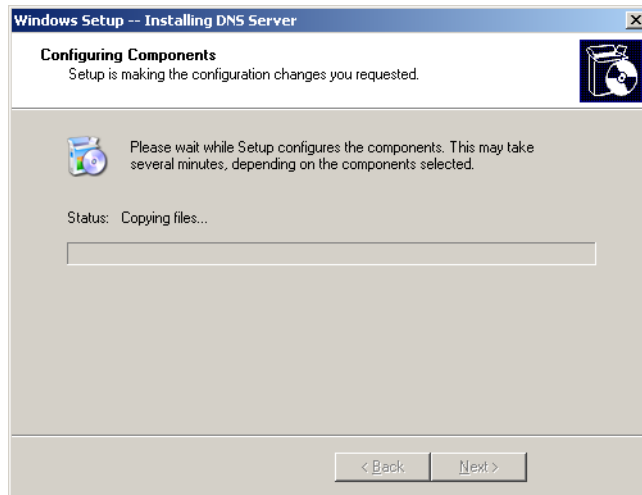

Figure D-47 Configuring components status
6. Setup will copy the required files and then proceed with configuring components as shown by progress bar in figure D-47.